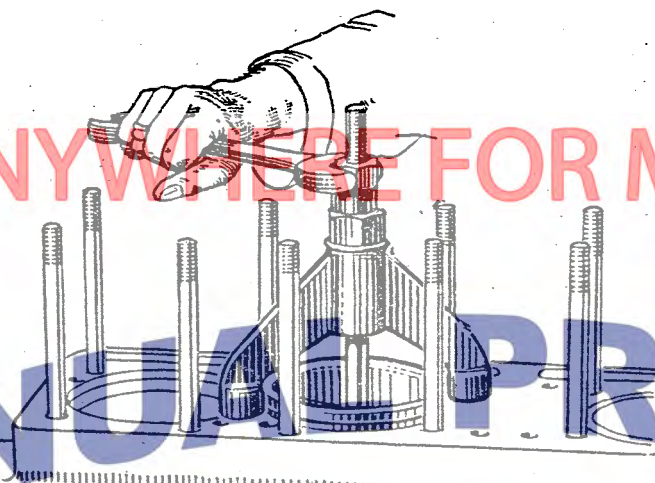

Fig. 19. Removable Cylinder Barrels.
12. Remove the rubber gasket 6, Fig. 19 and thoroughly clean the lower groove in the cylinder block where the gasket fits. See that the shoulders on barrel and in cylinder block are clean.
13. Put new rubber gasket (6) Fig. 19 down in lower groove of cylinder block. Be sure that gasket is in the groove. Never use the old rubber gasket.